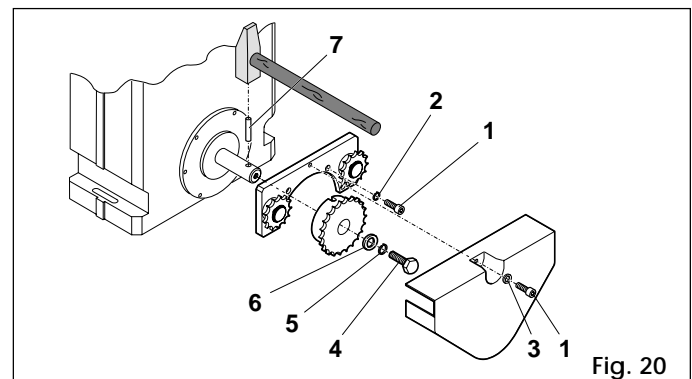
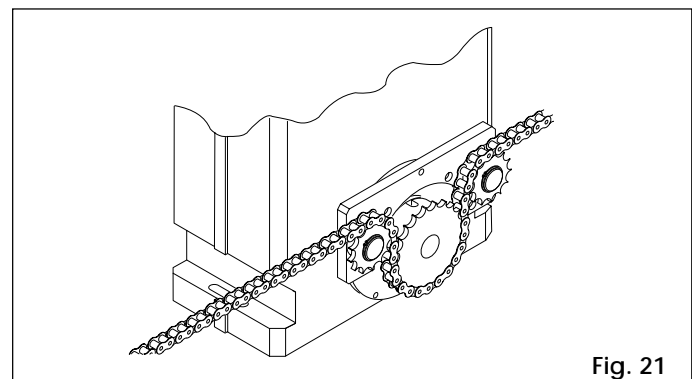

Fig. 20
Fig. 21
- Fit the idle transmission bracket on the gear motor flange, removing the four upper bolts and replacing them with the 5x12 hex bolts 1 and washers 2 in the kit as shown in Fig. 20.
- Fit the chain as shown in Fig. 21 and mount the casing with screws 1 and washers 3 (Fig. 20).